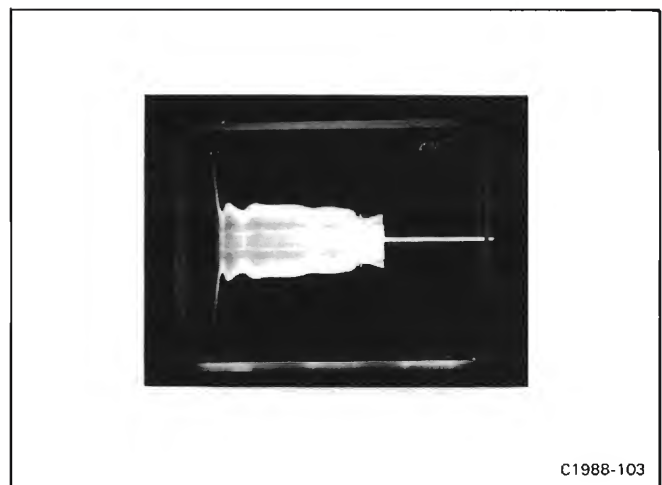

Figure 3-8. Current waveform of T30 showing burst operation at line voltage of about 60 volts.
4. If the 7854 continues in the pulse mode or, continues to below line fuses, check the current waveform through T30. To do this, first repeat part 1 of this step. Then connect a current probe from the test oscilloscope to the gray lead that passes through toroid transformer T30. Set the test oscilloscope for a vertical deflection factor of about 1 volt/division and a horizontal sweep rate of 2 milliseconds/division. Connect the 7854 power-cord plug to the variable transformer which is set for 0 volt. Turn the 7854 on and slowly increase the variable autotransformer's output to about 60 volts. Check for a burst waveform on the test oscilloscope (similar to that shown in Fig. 3-8).